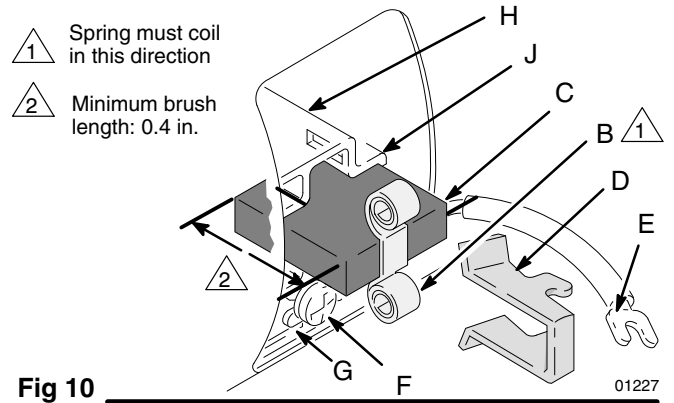

Fig 10
6. Install new brush (C) so lead is in long slot (J) of the brush holder (H). Slide brush lead (E) terminal under terminal screw (F) washer. Make sure motor lead (G) is still connected at screw. Tighten screw (F). See Fig 10.
7. Place spring (B) on brush (C). See Fig 10.
8. Push in spring clip (D) and hook. See Fig 10.